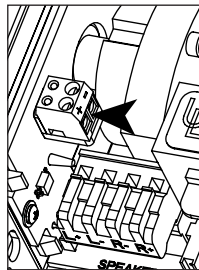

Figure 7
5. Locate the 2 pin voltage connector (see **Figure 7**). Strip 1/4" of insulation from the end of each wire. Tightly twist the end of each wire until no frayed ends remain and insert each wire into the appropriate hole on the connector. Use a small flathead screwdriver to tighten the screws in place.